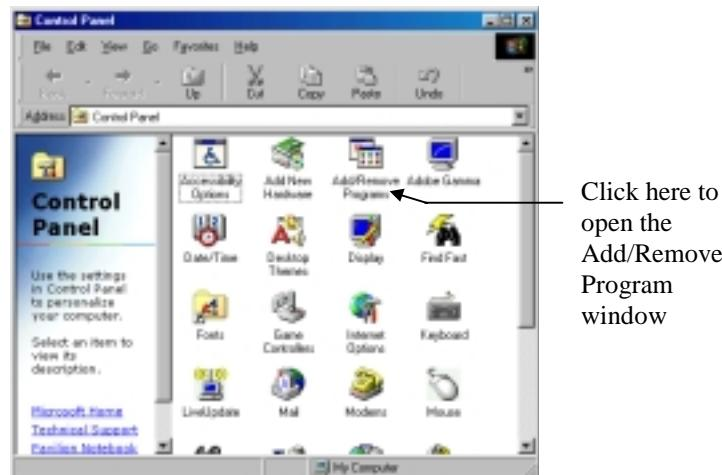

Figure 2.2 Opening the Add/Remove Program Window
- d. In the Control Panel folder, double click the add/remove icon (Figure 2.2).